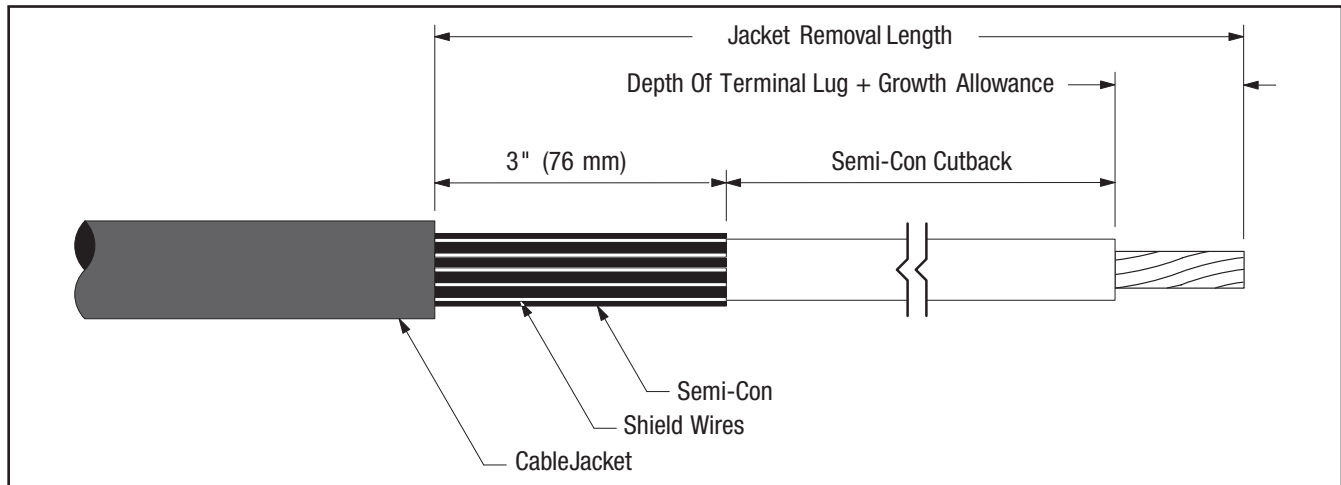

Figure 8
7.2 Prepare cable using dimensions shown in Figure 8 and 9. Refer to Table 3 for semi-con cutback dimension. **Be sure to allow for depth of terminal lug.**